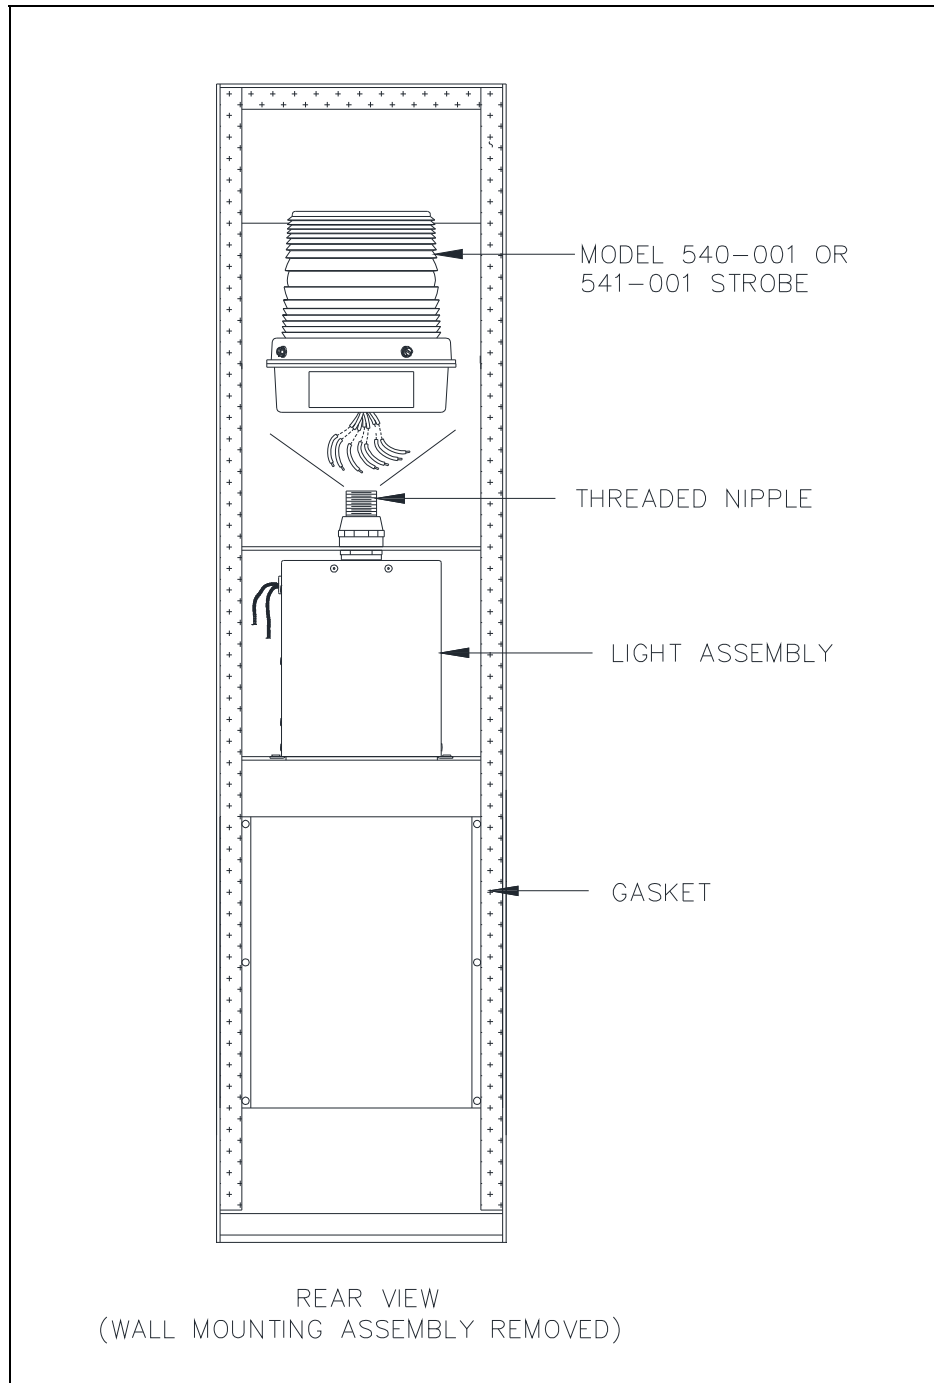

Figure 6. Strobe Assembly
1. Insert the strobe's 15-foot wires through the station's threaded nipple and allow the wires to extend to the bottom of the station (see Figure 6).